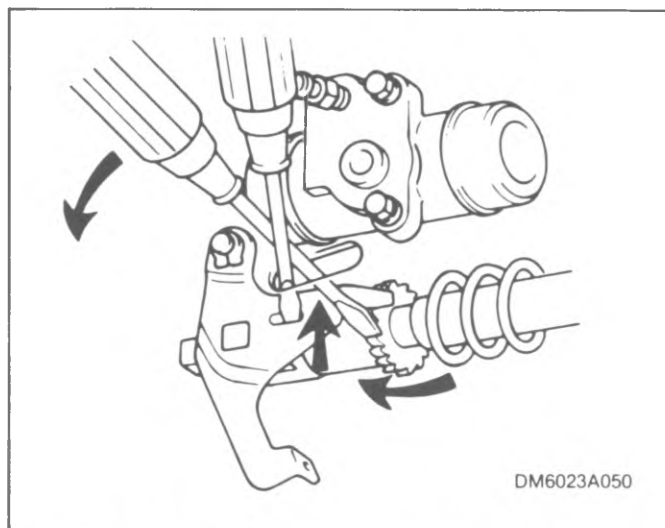

Figure 4-4. Backing Off 1985-86 Nova Adjuster
3. Position tip of screwdriver into the slot in the adjusting lever. Lift the adjusting lever away from the adjuster star wheel. Use a second screwdriver, back off the auto adjuster star wheel (see figure 4-4).